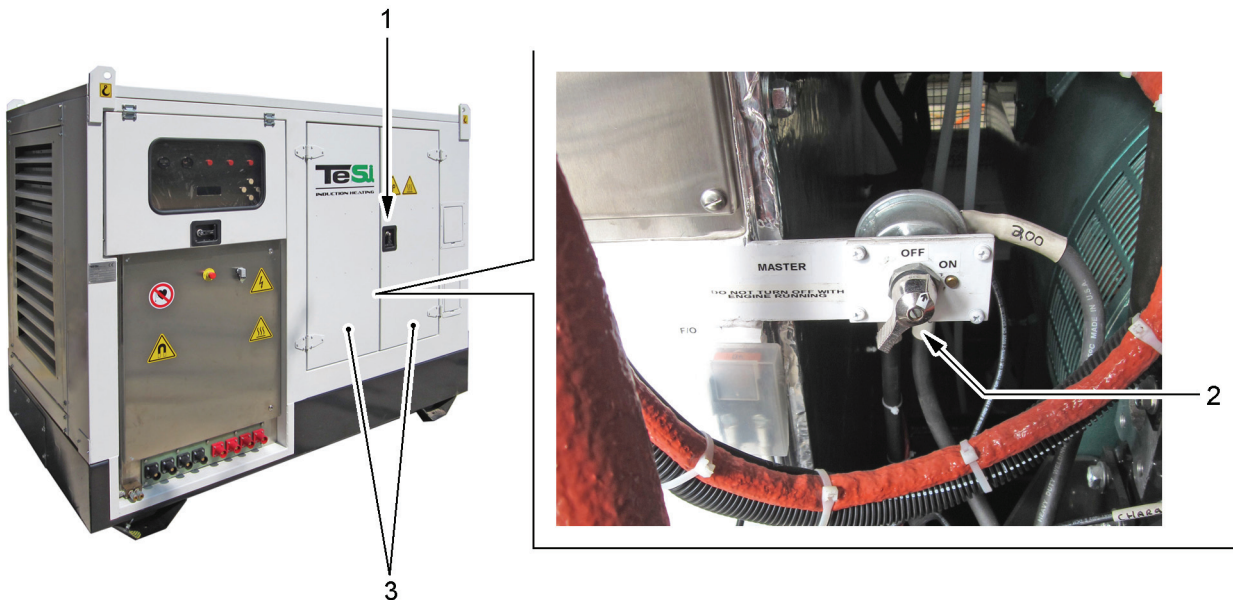

Figure 4.1 - Switch OFF the battery switch
- 1) Open the access door to the engine (see Figure 4.1/3), situated on the front part, by acting on the relevant handle (1), after having removed the locking padlock and switch OFF the battery switch (2).
- 4) Install cover (3) in its seat and lock it there by means of the screws (1) and relevant washers (2).
- 5) Close the access door (see Figure 4.1/3), by acting on the handle (1), and lock it by means of the locking padlock.